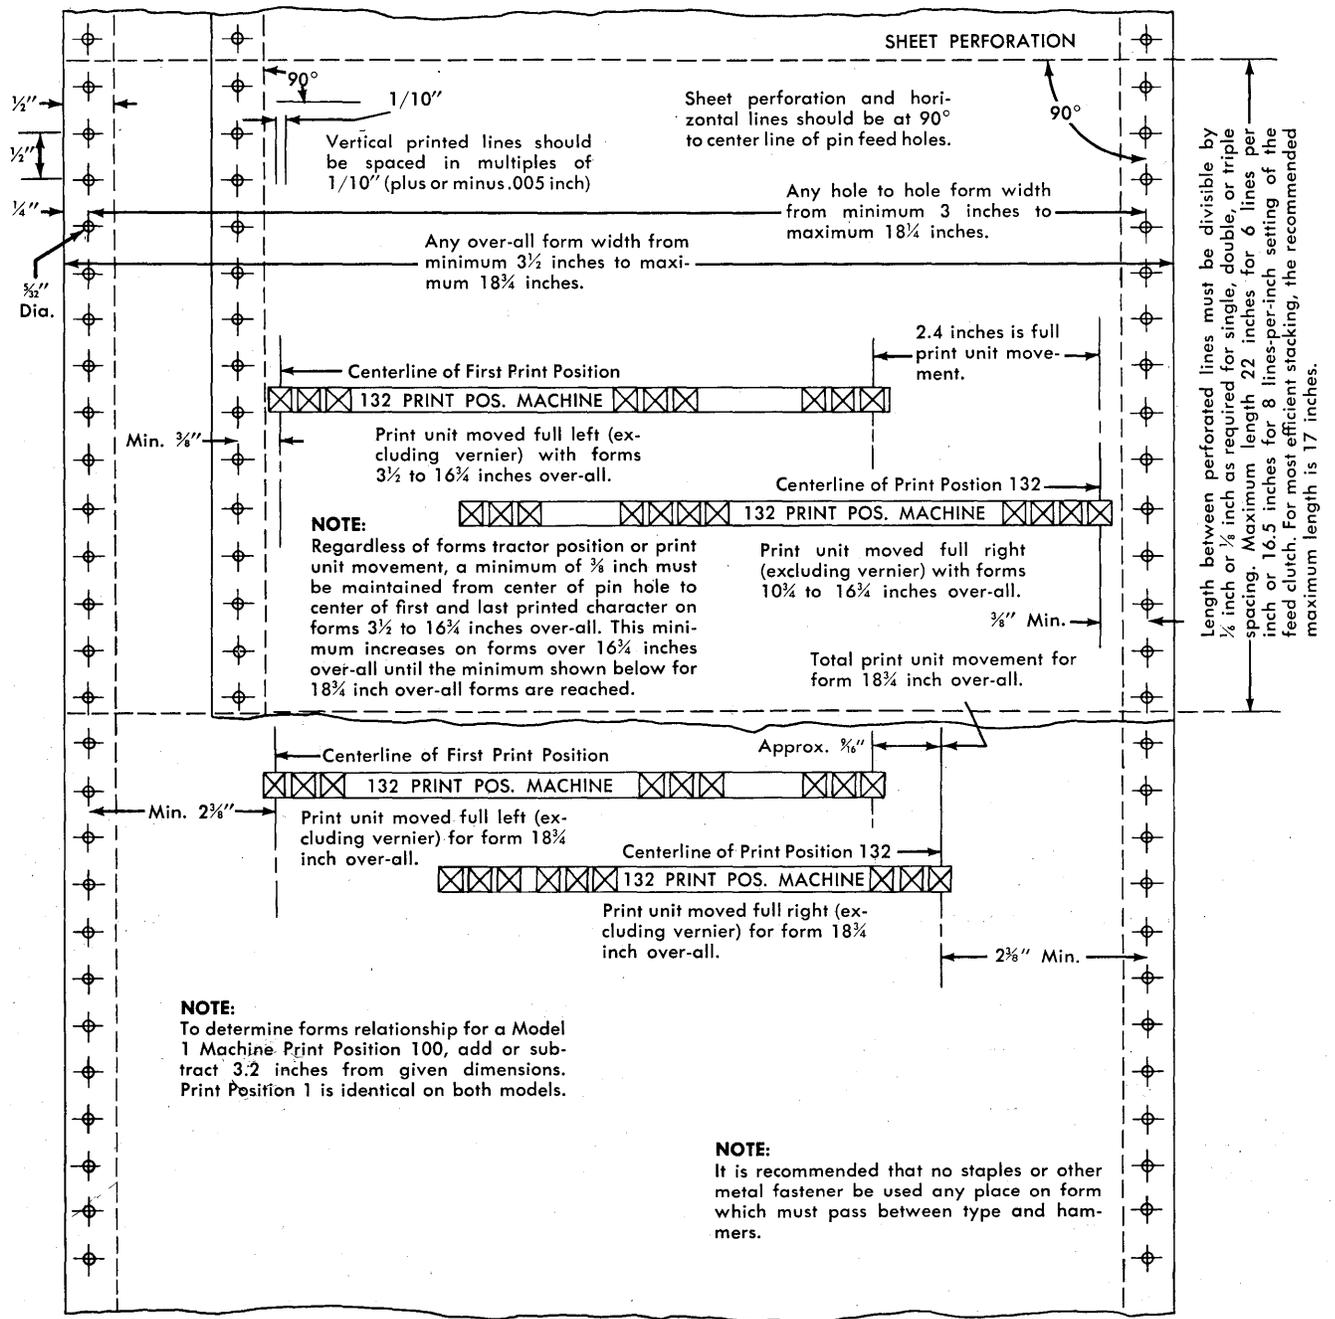

Figure 36. Form Specifications
The IBM 1403 Printer carriage is designed to feed marginally punched continuous forms satisfactorily under the conditions and specifications outlined in Figure 36. These specifications, if followed, give maximum operating efficiency when the 1403 carriage is used. They are not intended to be restrictive, rather they are intended to permit customers to purchase their continuous forms from the manufacturer of their choice.
1. The maximum form width is $18\frac{3}{4}$ inches, and the minimum is $3\frac{1}{2}$ inches (Figure 36).
Width of Forms: Although forms of any width within the extremes of those shown in Figure 36 can be used, it is recommended that form widths be confined to the standard sizes shown in Figure 37.